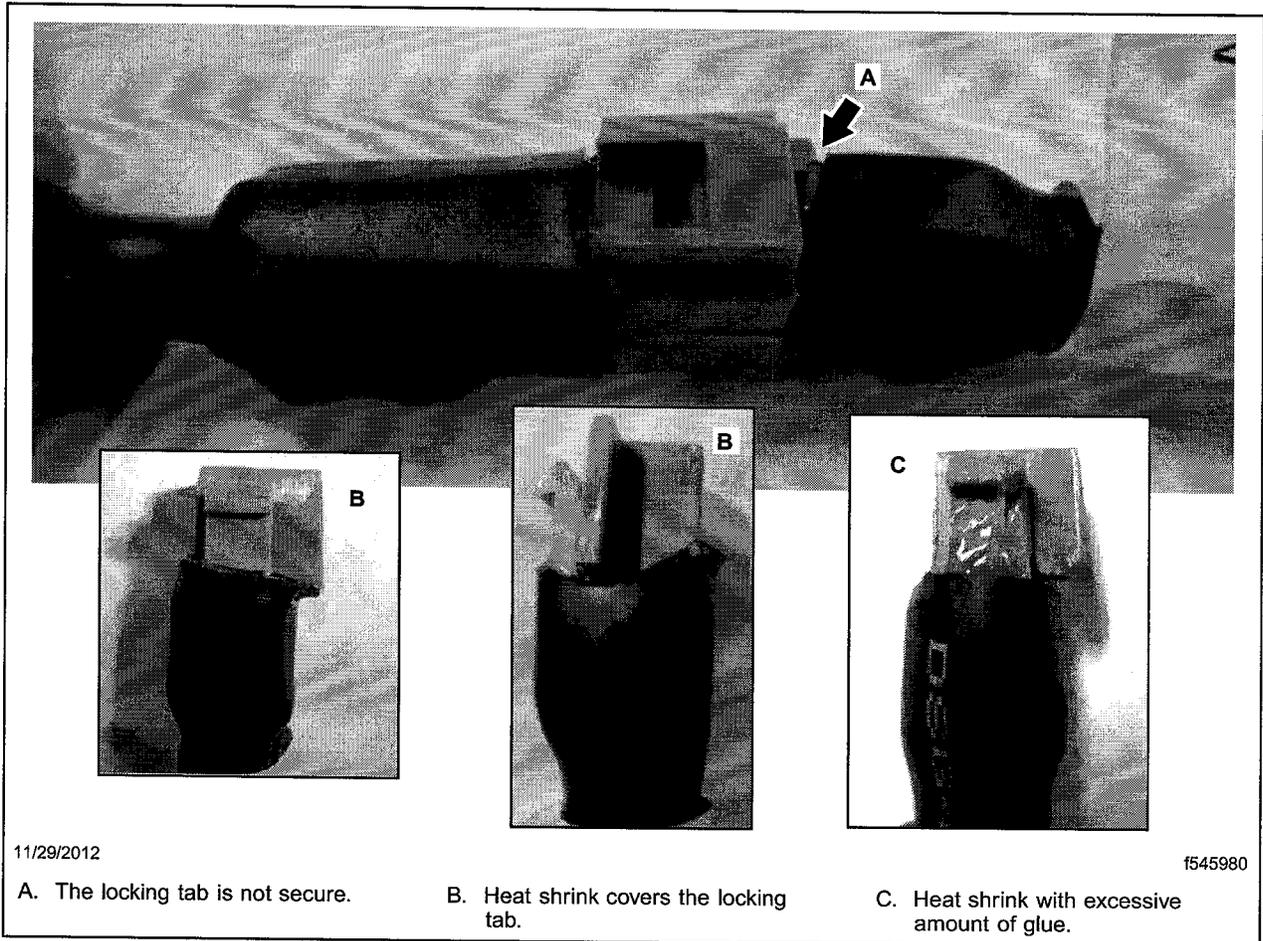
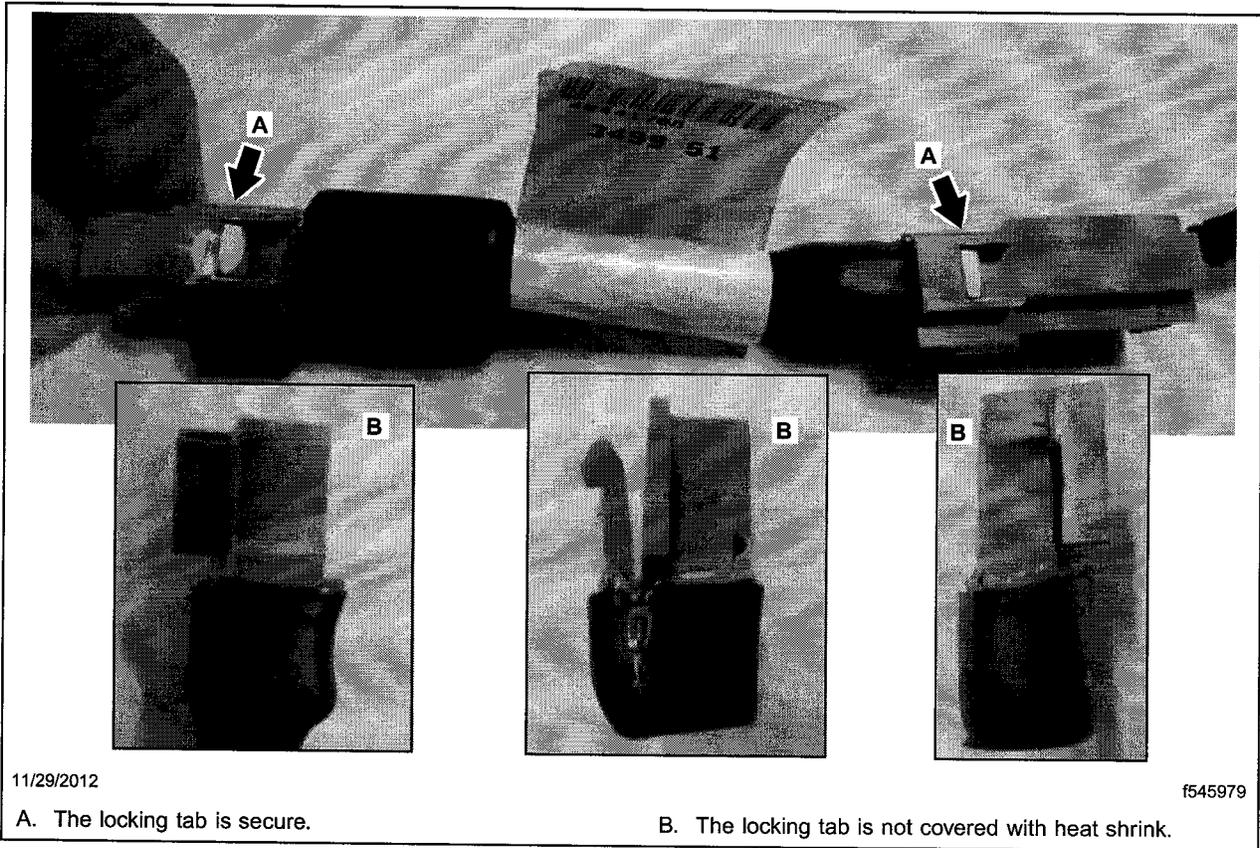

Fig. 2, Incorrect Diode Assembly
Fig. 3, Correct Diode Assembly
6. Trim the heat shrink from one side. See **Fig. 2** for an example of excessive heat shrink around the diode locking tab. **Fig. 3** shows a brake diode with properly applied heat shrink.